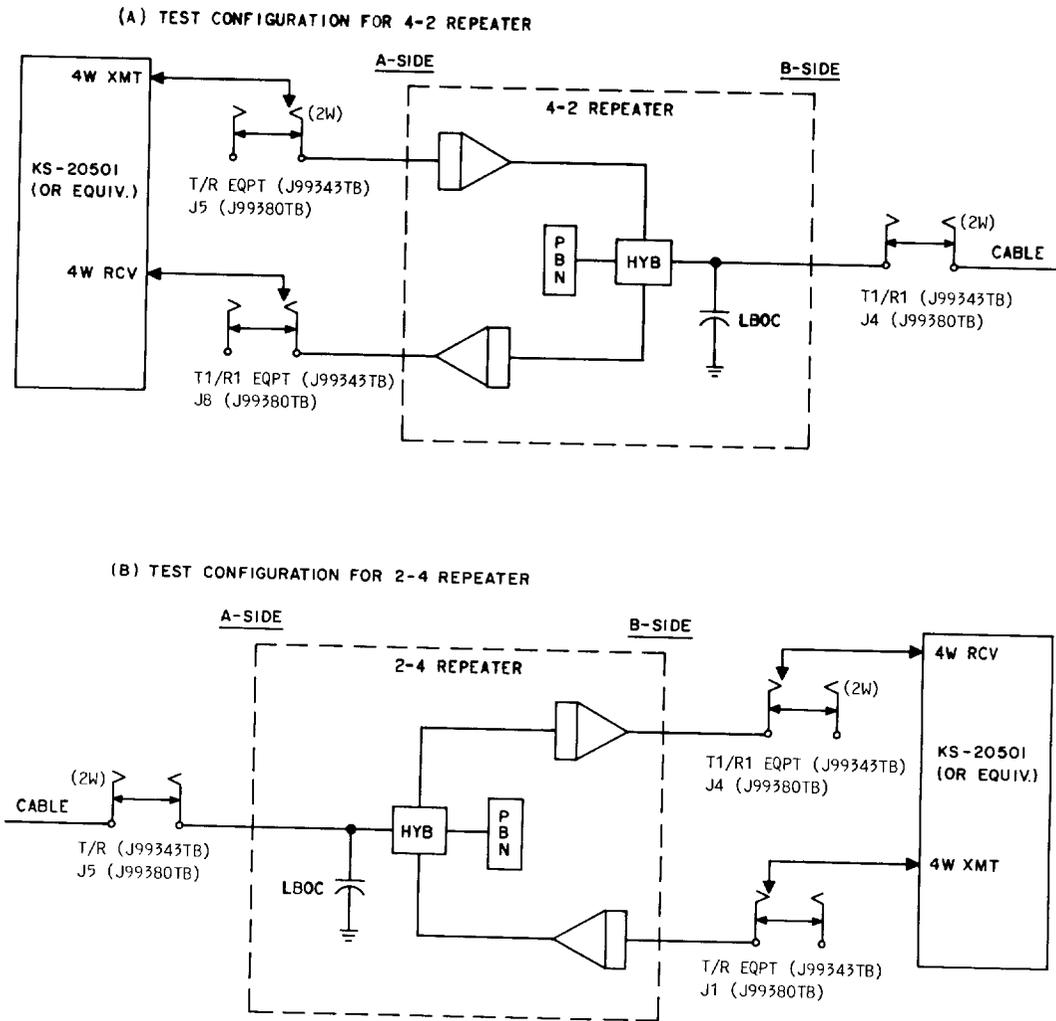

Fig. 14—Test Configuration For Setting the Precision Balancing Network by Measurement
4.07 The following procedure describes an orderly way to determine a PBN setting by the measurement of echo return loss (ERL), singing return loss (SRL), and high singing return loss (SRL HI). A return-loss measuring set [(RLMS) KS-20501, L3 or equivalent] arranged to measure 4-wire return loss is connected to the 4-wire side of the repeater. The three return-loss readings are maximized by making a series of trial settings of the PBN switches. See Fig. 14 for a diagram of the equipment arrangement for making these measurements.